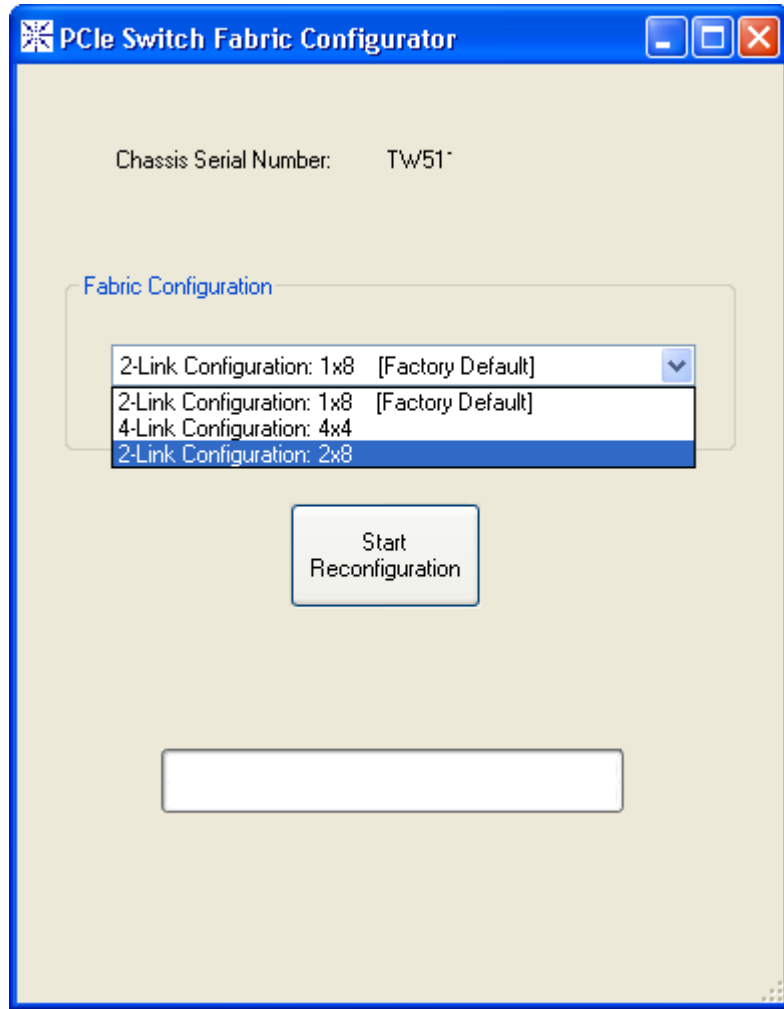

Figure 43 Fabric Configuration selection dialog
- 4 The **Configurator** selection dialog is displayed next as shown in Figure 43. To change to the 2x8 PCIe link configuration, use the Fabric Configuration pull down menu to select **2-Link Configuration: 2x8**, and then click **Start Reconfiguration**.